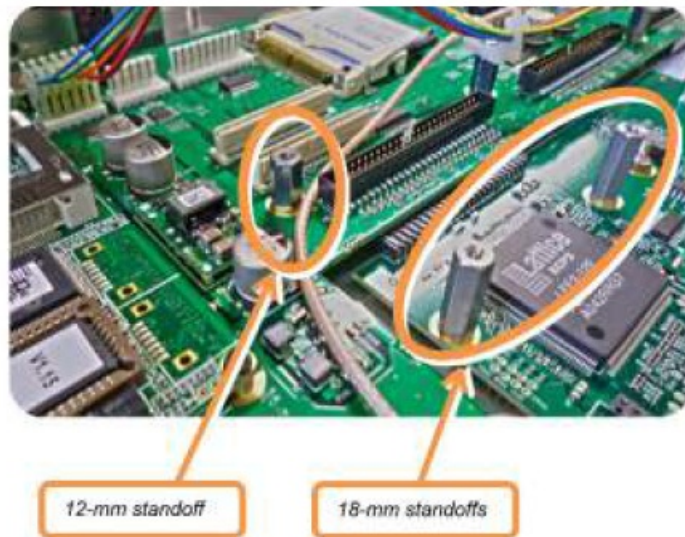

Figure 11: Gigabit Ethernet option card installation
- On the SecureSync mainboard, remove the screw located under the J11 connector and replace with the supplied 12-mm standoff (see Figure 11).